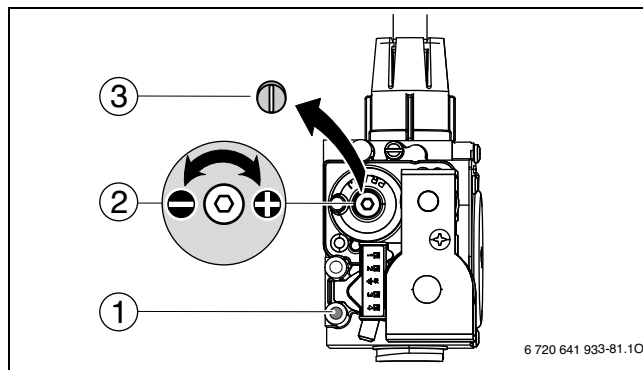

Fig. 74 Set CO2 or O2 level for minimum nominal output
- ▶ Remove the sealed screw (→ Fig. 74, [3]) from gas valve adjustment screw (→ Fig. 74, [2]) and set CO2 or O2 level for minimum nominal output.
- ▶ Reinstall the screw (→ Fig. 74, [3]) to cover the gas valve adjustment screw.
- ▶ Loosen the screw in the test port for gas inlet pressure (→ Fig. 74, [1]) and connect a pressure gauge (→ Fig. 75).